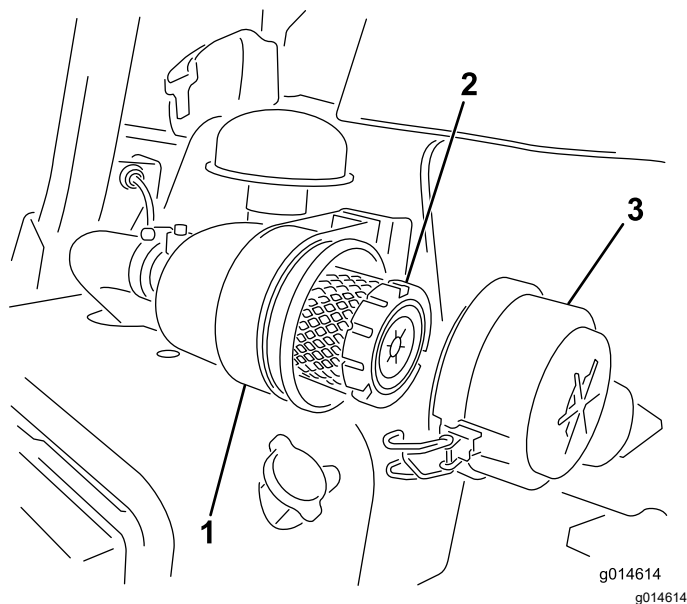

Figure 26
1. Release the latches securing the air-cleaner cover to the air-cleaner body (Figure 26).
7. Secure the latches (Figure 26).